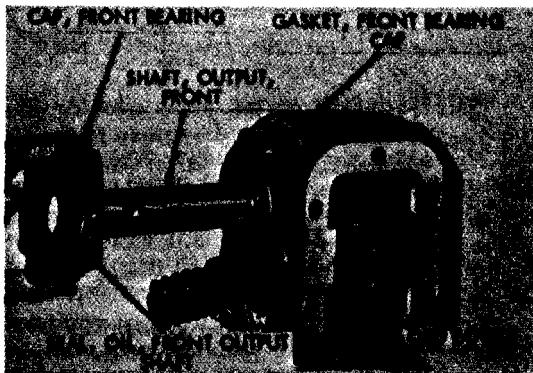

Figure 290. Removing front cap
(4) Remove front output shaft.
- (a) Remove four cap screws and lock-washers holding front bearing cap (fig. 290) to case. Remove front bearing cap and front bearing cap gasket. Discard gasket. It is not necessary to remove front output-shaft oil seal from cap unless inspection (par. 207b) reveals replacement is necessary. To remove oil seal, drive out with suitable punch.